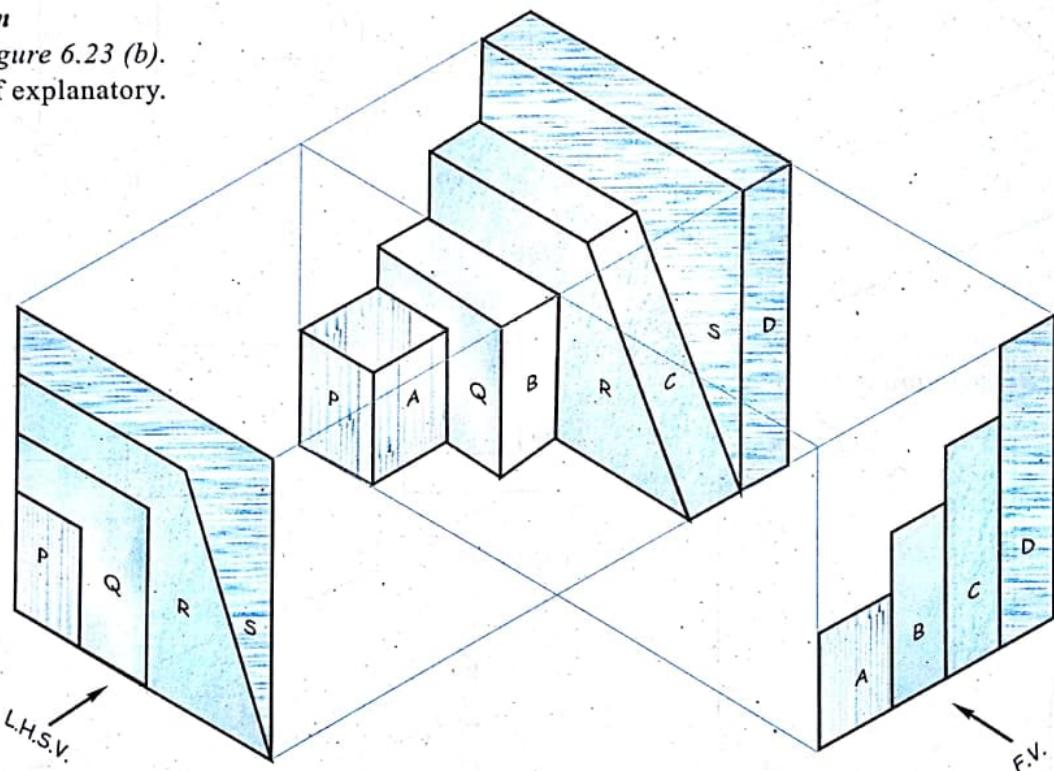

FIG. 6.23 (b)
**Note :** When there are more surfaces in an object, draw part by part as shown in figure 6.23 (b). Surface P and A are in relation with each other because of its common height. Similarly surfaces Q and B; R and C; S and D are of common height. So, place them in contact with respect to views to represent the isometric view.